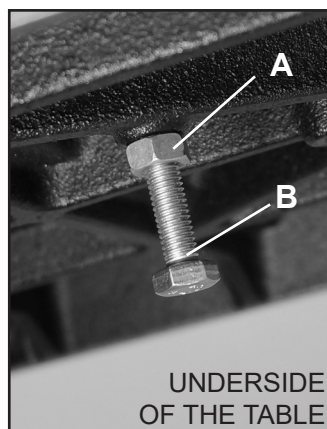

FIGURE 11
1. At the rear of the saw, loosen the Quick Locking Handle (#74A) on the table trunnion by pulling it upward. Fig.11, A.
2. Turn the table tilting Handwheel (#24B) to adjust the table to the desired angle. Fig. 11, B. Use the angle indicator scale (#32B) on the trunnion bracket (#27B) to find the desired angle, Fig. 11, C.